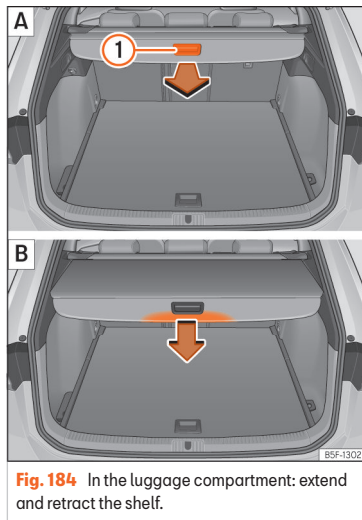

Fig. 184 In the luggage compartment: extend and retract the shelf.
- Pull evenly on the rear shelf using its handle »» **Fig. 184** ① in a backwards direction until it audibly clicks into place.
- Press on the handle of the rear shelf in the direction of the arrow to release it »» **Fig. 184** B.